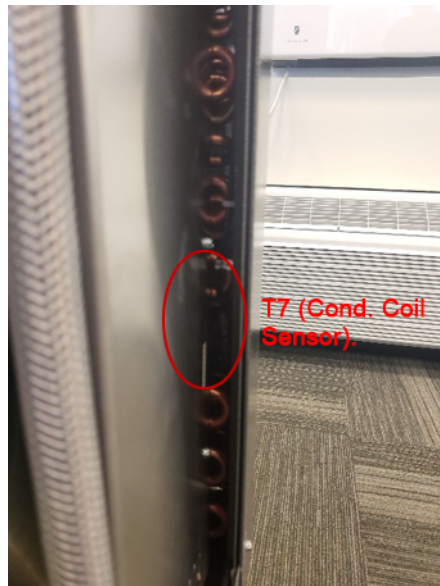

Figure 630 (Thermistor Locations)
3. Check resistance of thermistors (10 places). Refer to thermistor values (Figure 630).